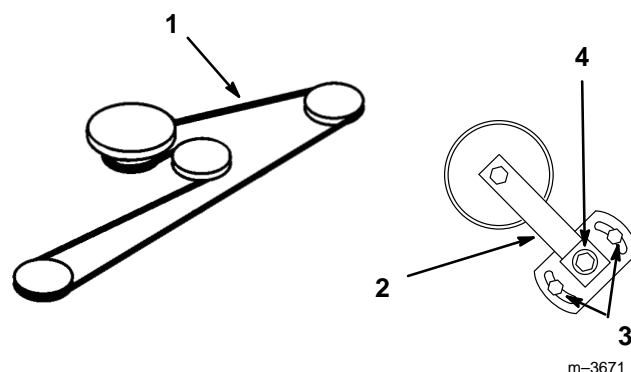

Figure 47
3. Loosen two nuts securing idler plate and move the idler arm to relieve belt tension on the idler pulley, then remove the worn deck belt (Fig. 47).
4. Install the new deck belt around the spindle pulleys, belt guide, the idler pulley, and in the lower groove of the center spindle pulley (Fig. 47).